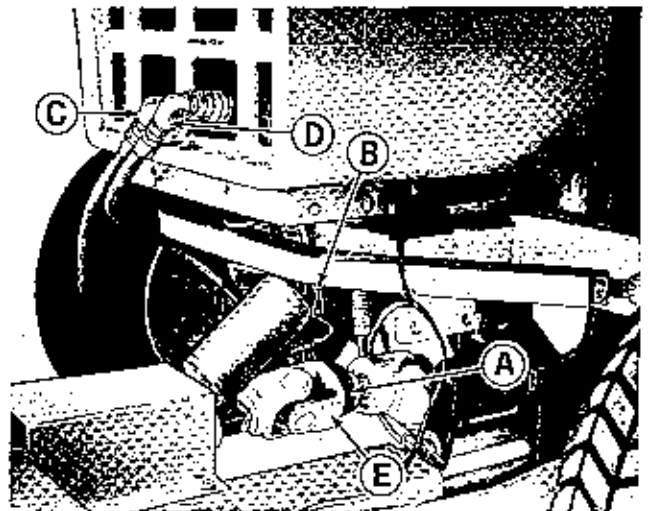

Figure 7. Hydraulic lift cylinder installed.
9. See figure 7. Attach hydraulic line (C) which goes to the piston end (Stationary part of the hydraulic cylinder) as shown. Attach hydraulic line (D) which goes to the rod end or moveable part of the hydraulic cylinder. Attach the piston end of the hydraulic cylinder to the hitch assembly at (B) using a pin and spring clip. It may be helpful in doing this to extend the hydraulic cylinder by moving the tractor hydraulic lift lever to the LOWER position while the tractor engine is idling. **CAUTION: DO NOT START THE TRACTOR ENGINE WITHOUT AN OPERATOR IN THE TRACTOR SEAT.**
4. See figure 7. Pull forward (toward the snow thrower) on locking collar (A) to release the drive shaft lock. Then pull forward on the drive shaft at (E) to remove it from the spline shaft.
5. See figure 7. Remove the pin and spring clip at (B) to release the hydraulic cylinder from the hitch assembly. Disconnect the hydraulic lines at (C) and (D).